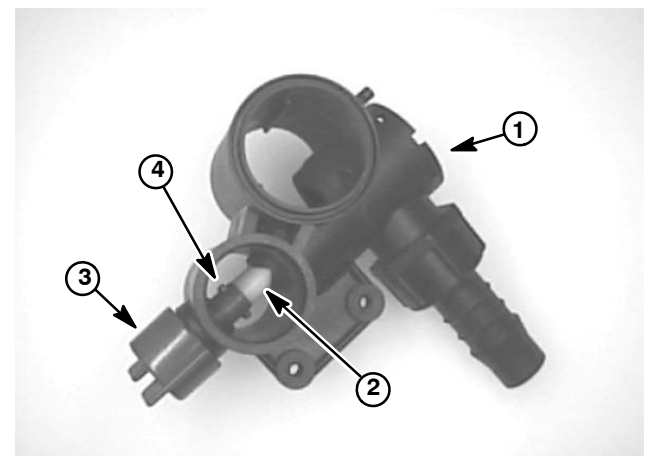

Figure 32
6. If leakage occurs from balancing valve knob at bottom of boom valve manifold (Fig. 32):
2. If boom valve manifold was disassembled (Fig. 32):